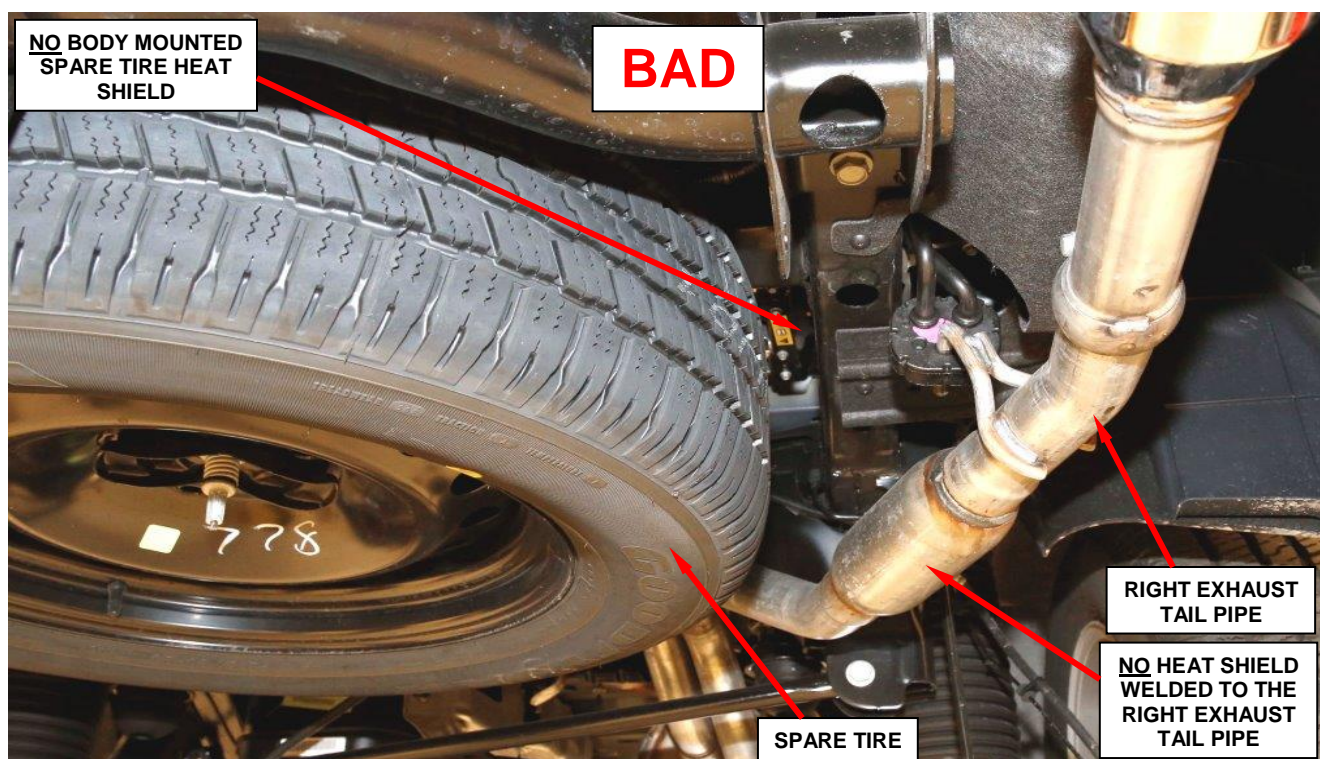

Figure 3 – No Spare Tire Heat Shield on Right Side Exhaust Tail Pipe or Mounted to the Body
- If there is no heat shield on the right side exhaust tail pipe or mounted to the body (Figure 3), continue with **Section B. Install Spare Tire Heat Shield**.